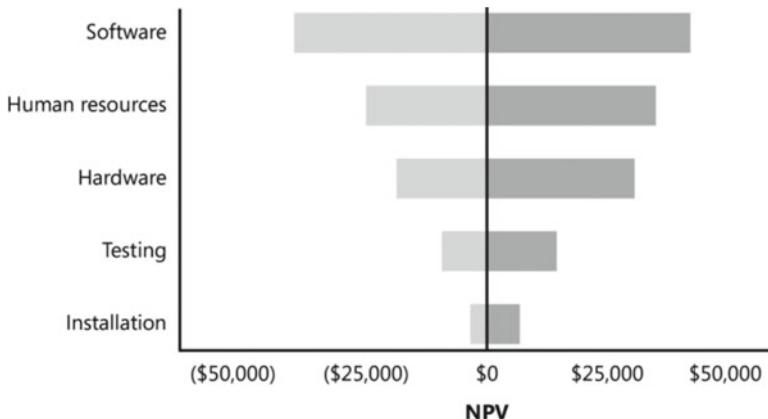

Figure 9-7. A example of tornado diagram showing how different risks may impact the project's net present value
- *Tornado diagrams*: Often used to present the results of sensitivity analysis. A tornado diagram is a histogram or bar chart where the data categories are listed vertically instead of horizontally, with the largest category at the top and the other categories in order of descending size, giving the diagram the appearance of a tornado. Figure 9-7 shows an example of a tornado diagram presenting the results of sensitivity analysis to show which parts of the project are most sensitive to risk, judged by the quantitative impact they will have on the net present value (NPV) of the project.